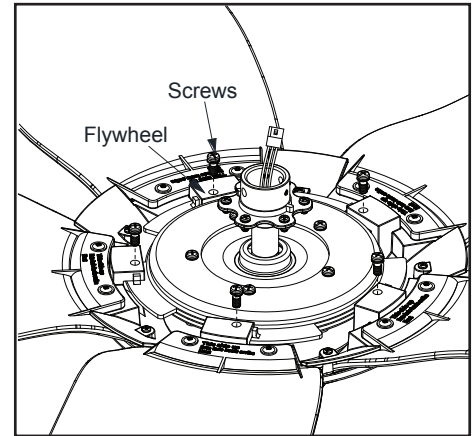

Figure 9
3. After aligning the holes on the flywheel with the holes on the tab, install the screws. (Figure 9)